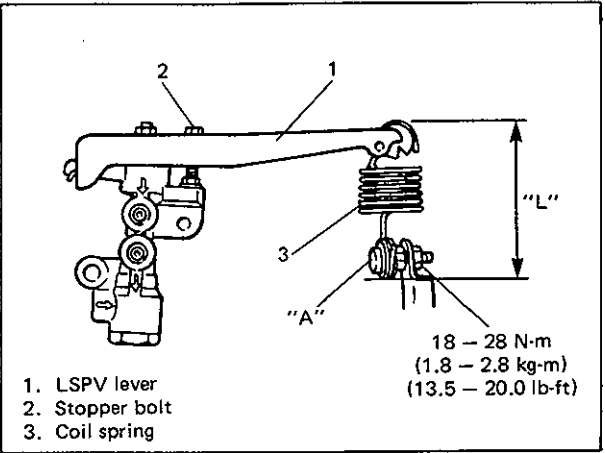

Fig. 5-108-6
4) If it isn't, adjust it to specification by changing bolt "A" tightening positions as shown in Fig. 5-108-6. After adjustment, tighten nut to specified torque.
For details, refer to Fig. 5-108-6.